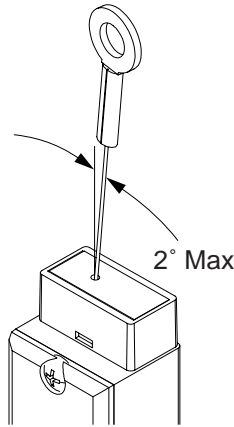

Figure 3
- To maximize wire rope life, align transducer with moving element so that wire rope exits perpendicular to axis of wire rope exit hole within 2° (see Figure 3).